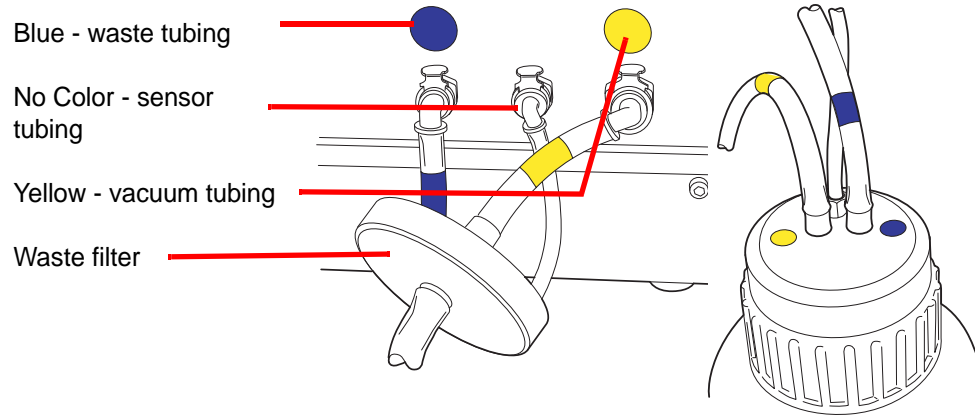

Figure 8-12 Waste Bottle Tubing Connections
3. Locate the three waste bottle connections at the rear of the ThinPrep 5000 processor. See Figure 8-12. Ensure that the buttons of the connectors are in the down/inward position.